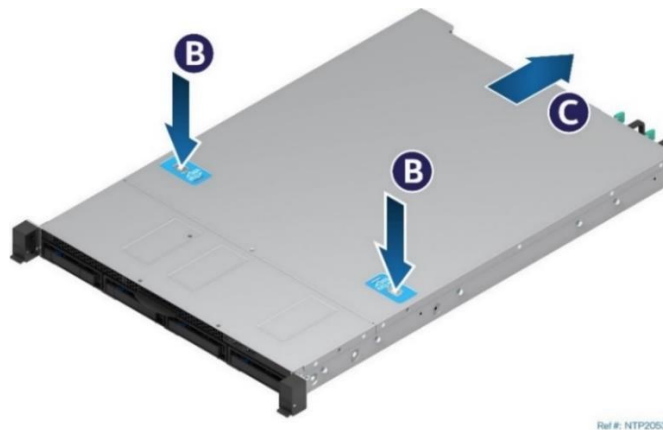

Figure 56. System Cover Removal
3. Remove the top Cover (see Figure 56).